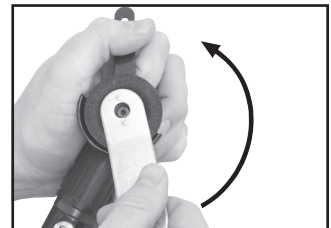

Fig. 6
2. Place the spanner on the spindle and the pin wrench on the locking nut. Hold the spanner and the angle grinder firmly and rotate the pin wrench in an anti-clockwise direction (See fig. 6).